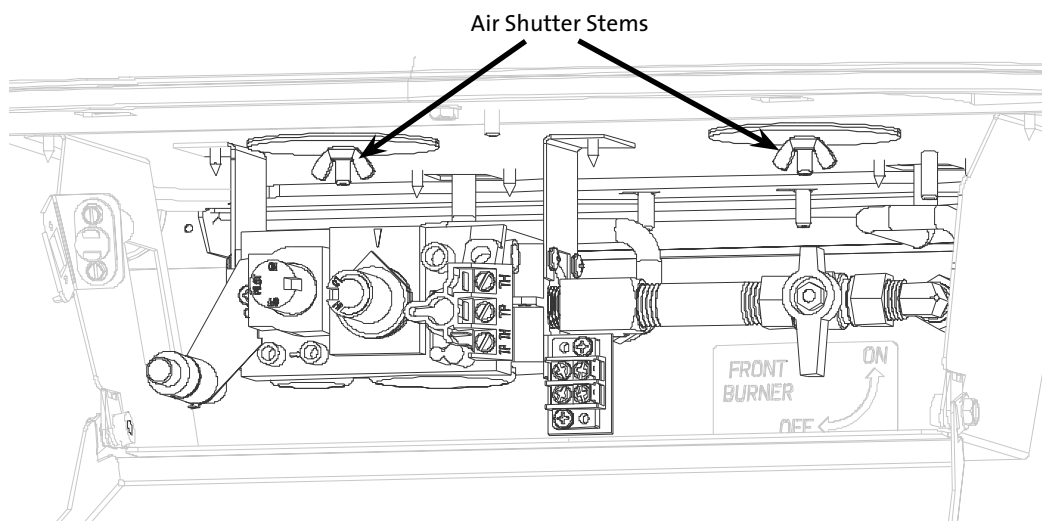

Figure 5.8. Pull the shutter stems forward to increase primary air. Push back to restrict air.
16. Adjust the Air Shutters. Fig. 5.8